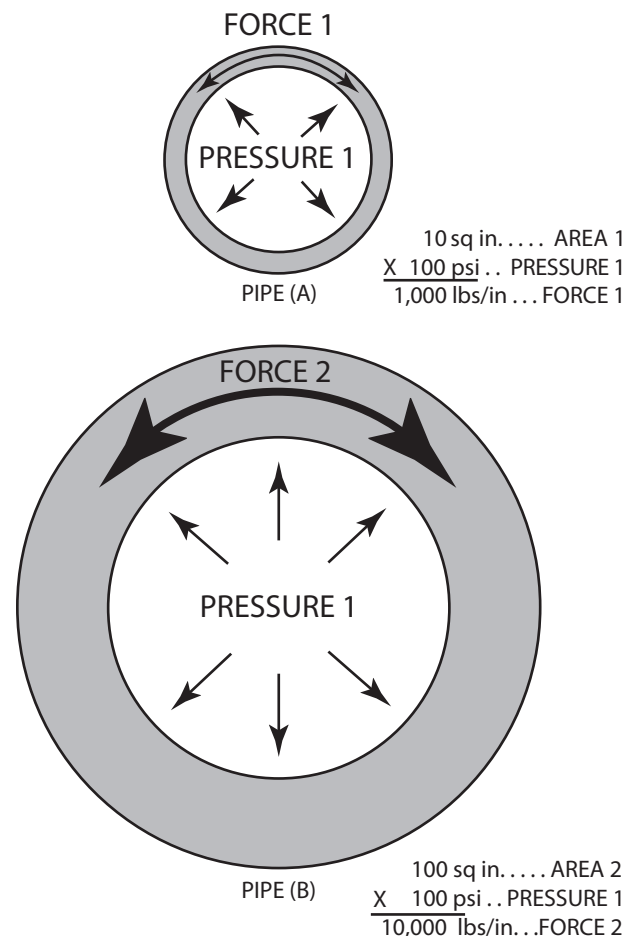

FIGURE 1-17 Diameter and wall thickness versus pressure.
One of the major differences between pipe and tubing is how the material is specified. When the American Standards Association, now the American National Standards Institute (ANSI), first standardized the dimensions for steel and iron pipe and tubing, there were few applications for pipe, so only a few different pressure ranges were available. The various pressure ranges determined the thickness of the wall of the pipe, **Figure 1-17**. The original standards only included standard, extra strong, and double extra strong. Today, standard (STD) pipe is often schedule 40, extra strong (XS) pipe is often schedule 80, and double extra strong (XXS) pipe does not have a schedule number. **Table 1-1** shows the various pipe schedules and wall thicknesses for a variety of pipe diameters that are available today. Changes in the marketplace have resulted in a significant increase in the various pressure ranges and wall thicknesses of pipe. Some of the things that have affected the wall thicknesses of pipe are changes in material and application. Since